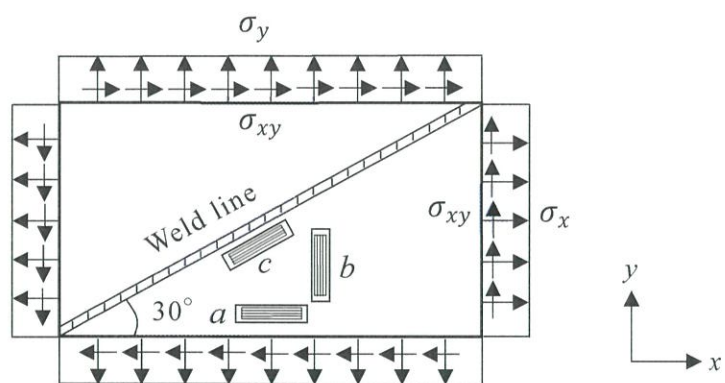

Figure 1-2
In the following, consider the case where the same rectangular plate is subjected to the normal stresses  $\sigma_x$  and  $\sigma_y$  and the shear stress  $\sigma_{xy}$ , as shown in Figure 1-2.
- (3) As shown in Figure 1-2, three strain gauges  $a$ ,  $b$  and  $c$  are arranged parallel to the  $x$ -direction,  $y$ -direction and weld line, respectively. The following strains were obtained:  $\varepsilon_a = 1100 \times 10^{-6}$ ,  $\varepsilon_b = 200 \times 10^{-6}$ , and  $\varepsilon_c = 200 \times 10^{-6}$ , respectively. Obtain the values for the stresses  $\sigma_x$ ,  $\sigma_y$ , and  $\sigma_{xy}$ .